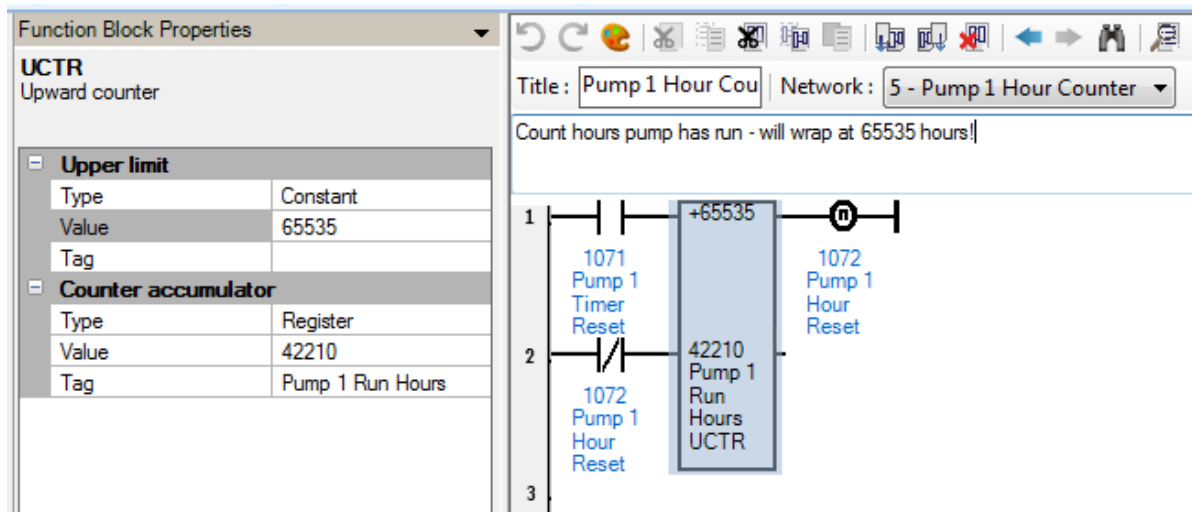

Figure 44: Insert / Edit UCTR Function
- Configure the UCTR function as shown in Figure 44: Insert / Edit UCTR Function.